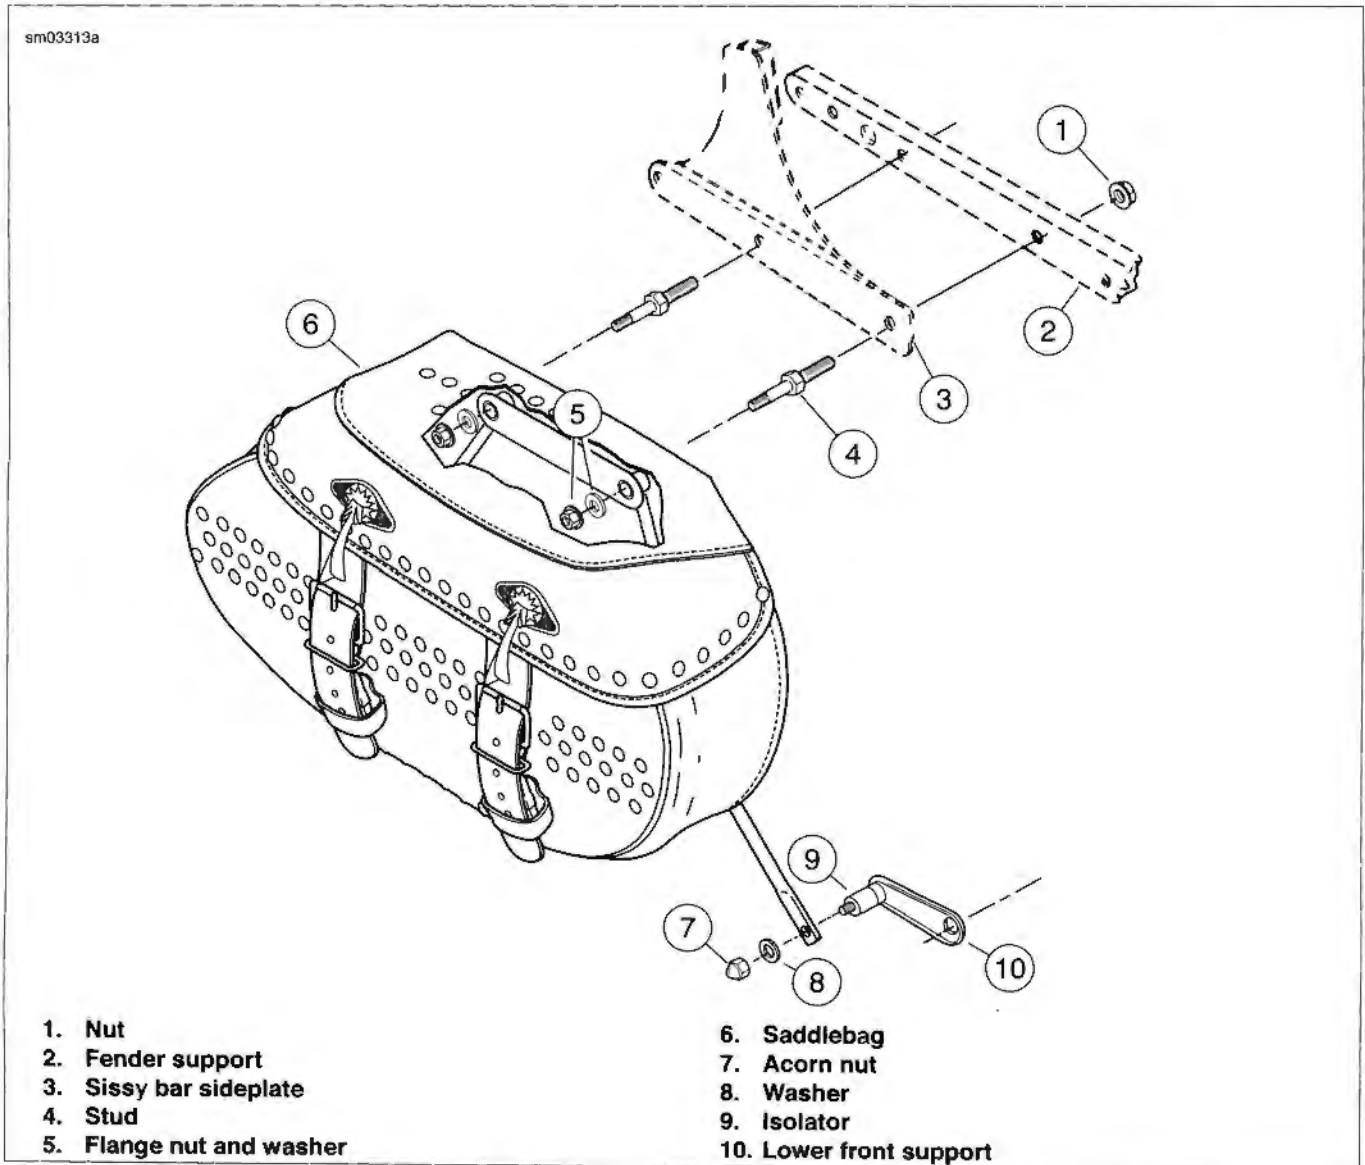

Figure 2-137. Saddlebags: FLSTC
1. See Figure 2-137. Remove acorn nut (7) and washer (8) from lower support.
2. Remove flange nuts and washers (5) from inside saddlebag.
3. Lift saddlebag away from motorcycle. Remove nuts (1) and studs (4) if necessary.
- See Figure 2-137. On FLSTC models, there are no washers between studs (4) and sissybar sideplate (3).
- If replacing isolator (9), long (silver) threads face saddlebag and short (yellow) threads face support.
1. If removed, install studs (4) and tighten nuts (1) behind fender support (2) to 21-27 ft-lbs (28.5-36.6 Nm).
2. Install flange nuts and washers (5) inside saddlebags. Tighten to 120-144 **in-lbs** (13.6-16.3 Nm).
3. Install lower bracket acorn nut (7) and washer (8). Tighten to 120-144 **in-lbs** (13.6-16.3 Nm).